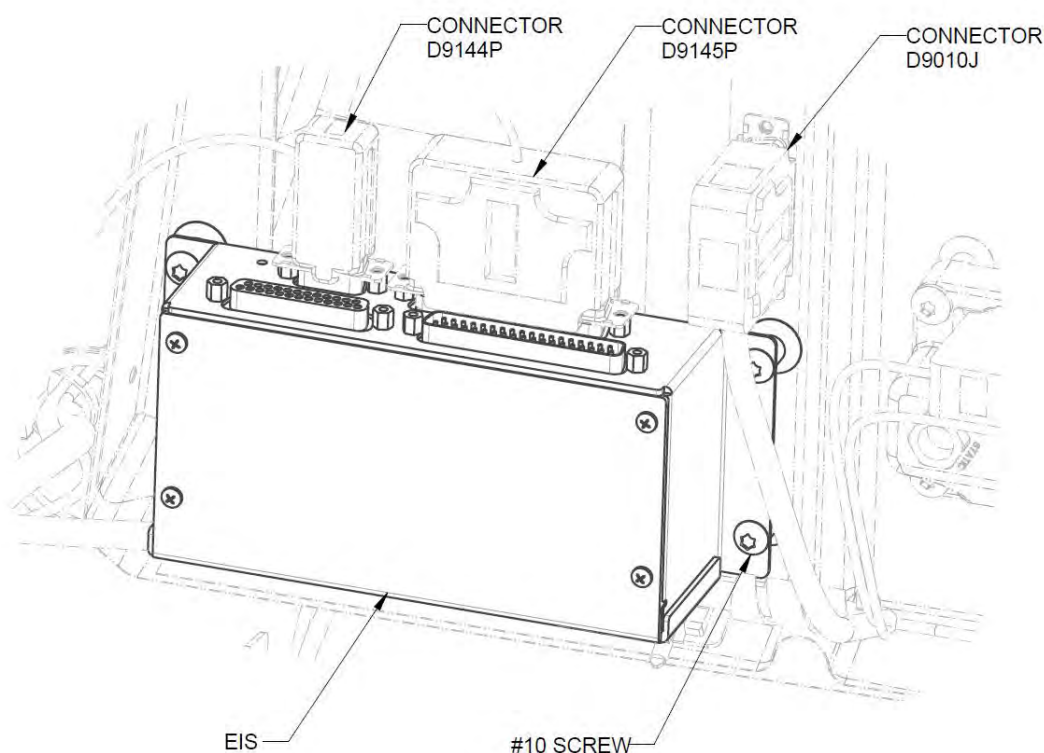

FIGURE 14-41
3. Disconnect connectors D9144P and D9145P from the EIS. (Figure 14-41)
1. Position the EIS in the orientation shown in Figure 14-41.
4. If removed, secure connector D9010J as shown in Figure 14-41.